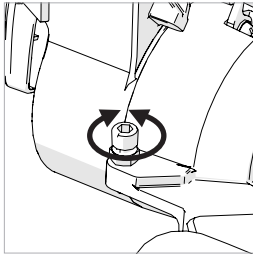

Fig. 25
- Use a Hex Key to adjust the adjustment screw in or out as required. (**Fig. 25**)